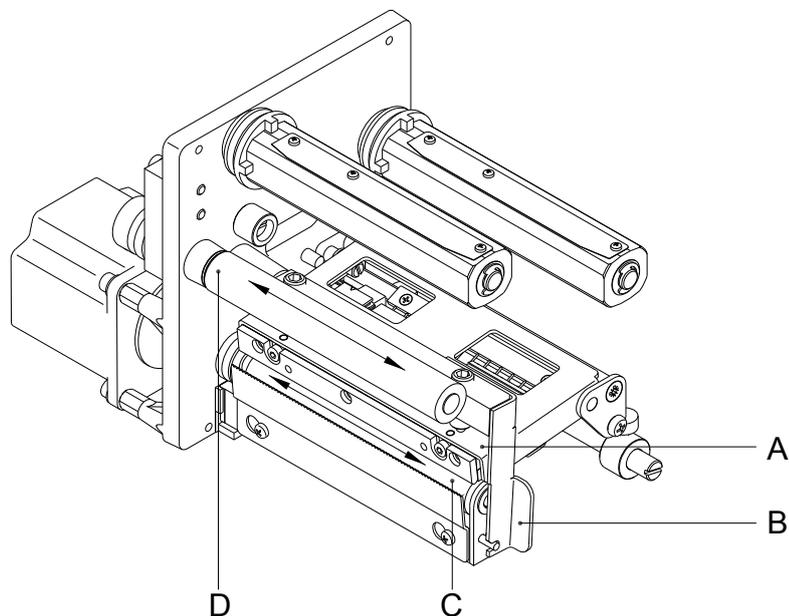

Figure 13
2. Turn red lever (B, in Figure 13) counter clockwise to lift up the printhead.